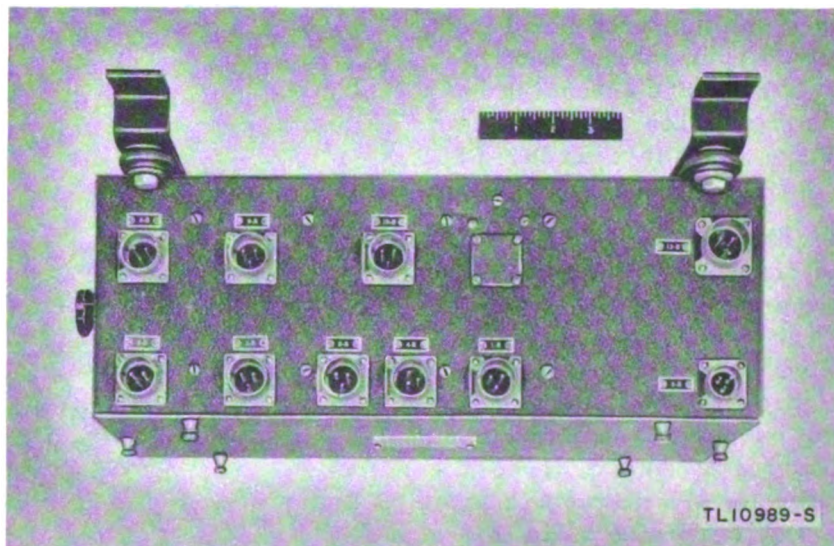

Figure 8. Junction Box J-99/CRD-3, bottom view.
b. Junction Box J-99/CRD-3. The r-f cables from the antenna system and from the receiver and indicator goniometers connect to Junction Box J-99/CRD-3. Photographs of the junction box are shown in figures 8 and 9 and a circuit diagram in figure 79. An electrically operated rotary switch inside the junction box switches the antenna, goniometer, and